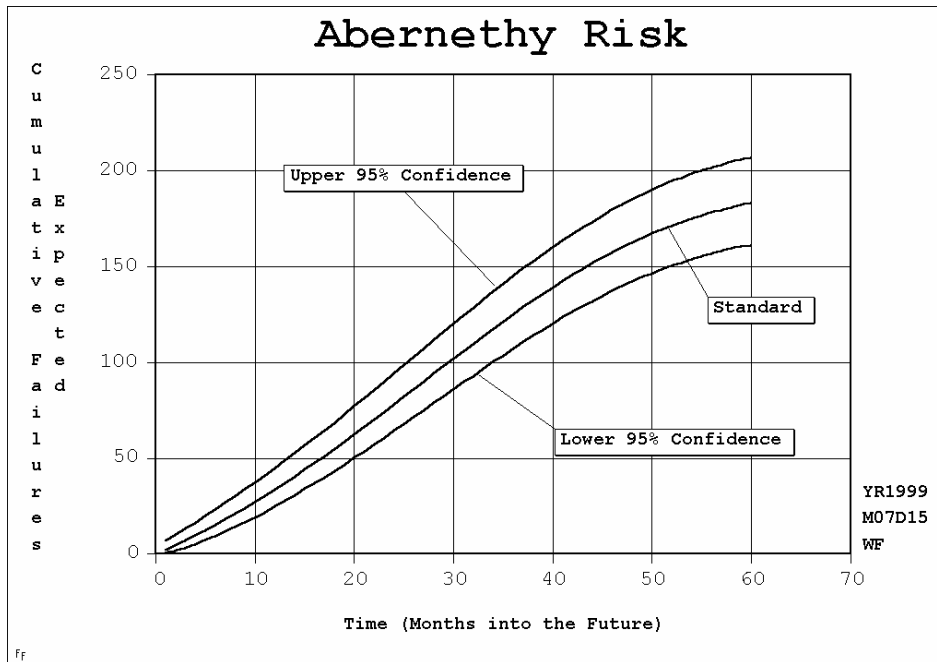

Figure 2. Standard Risk Analysis Output and 90% Double-Sided Confidence
**Failure Forecast Improvements:** The Abernethy Risk Analysis option in the newest WinSMITH™ Weibull now has confidence capability. Enter confidence level in the input selection menu and choose upper or lower bound (as mentioned in the Batch Effects article above). The output table will show Present Risk, Next Expected Occurrence and Failure Forecast results at the specified confidence. Confidence values displayed in the output table show only statistical uncertainty, not that associated with prediction intervals due to possible changes in trends, etc. Figure 2 is a plot of these confidence results in WinSMITH™ Visual for Case Study 4.5.2 in the NWH.